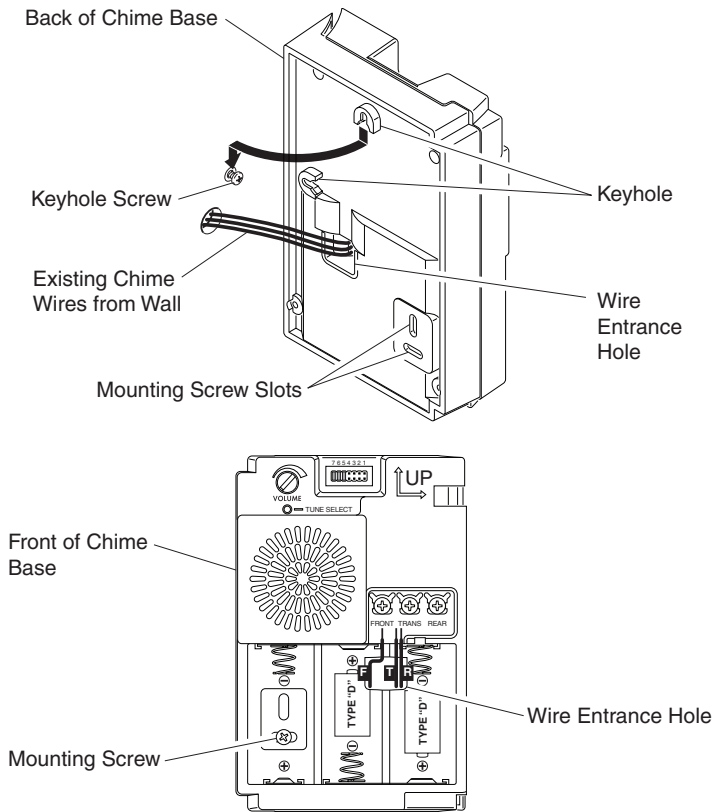

Figure 6
2. Mount chime base to wall using screws and anchors provided (see Figure 6). Drill 7/32" (5.5 mm) diameter pilot hole for wall anchors.
- Using the slots located in the bottom of the battery compartment, insert second screw through whichever slot is horizontal and attach to wall and tighten (see Figure 6).